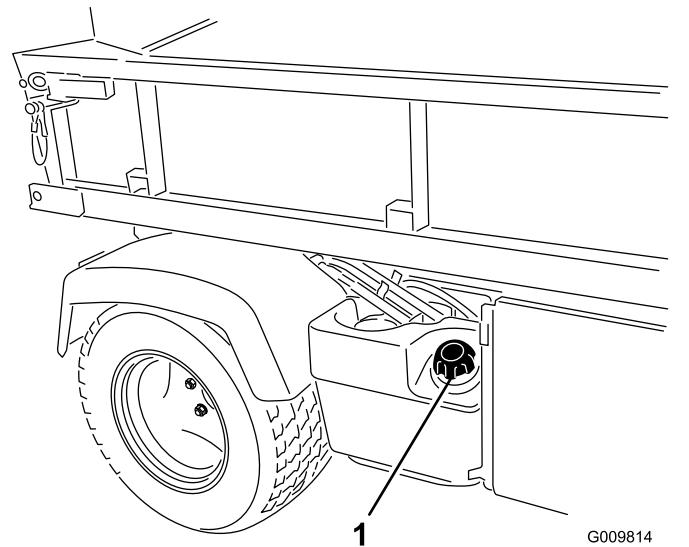

Figure 12
2. Remove the fuel-tank cap (Figure 12).